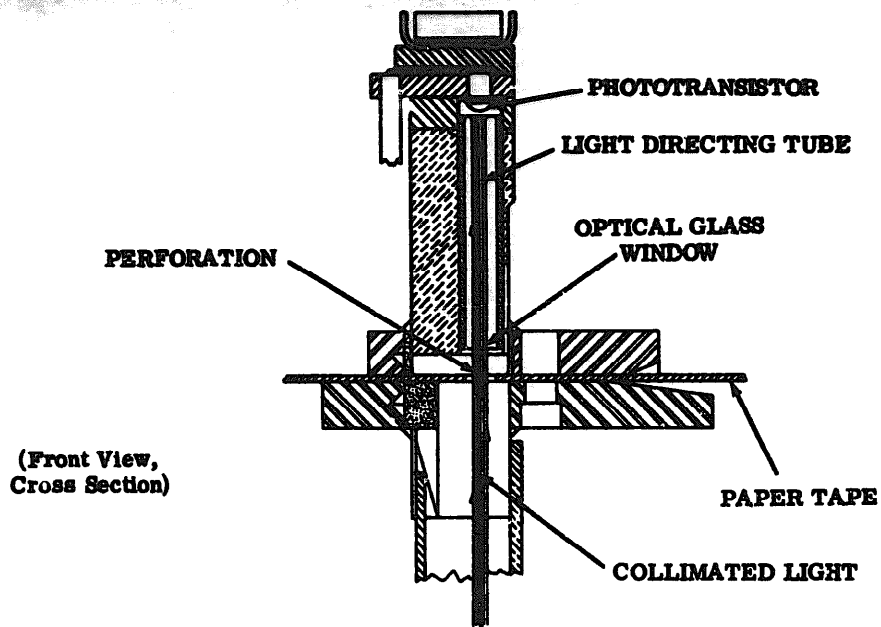

Figure 18 - Phototransistor Detects Perforation in Tape
3.14 **Hole Condition (Figure 18):** When a hole in the paper tape is in position over the die plate window, light passes from the light source assembly, through the die plate window,
3.16 Feed Hole (Figure 18): The code hole sensor tubes have an inside diameter of 0.062 inch (0.010 inch smaller than the code